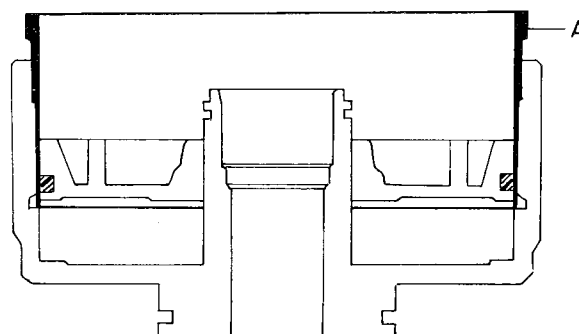

Fig. 4-103. Installation of piston for rear clutch
11. Fit the sealing rings for the piston. Use fitting ring 5000 and fit the piston in the clutch case, see Fig. 4-103.